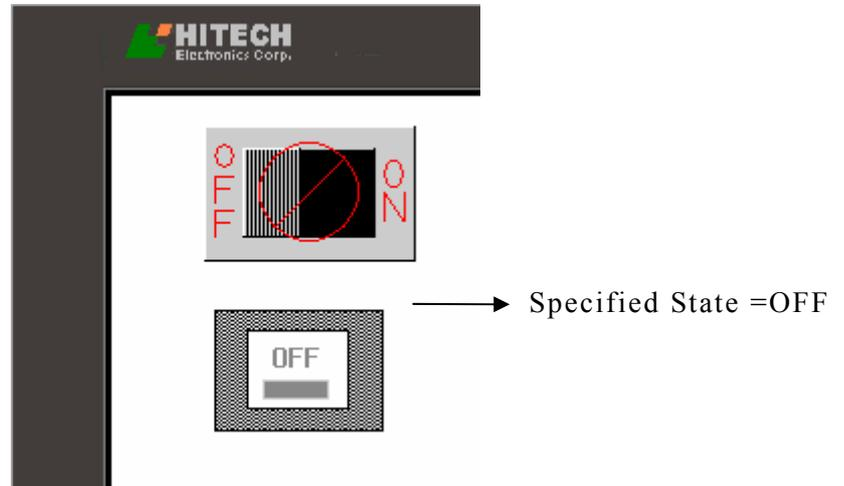
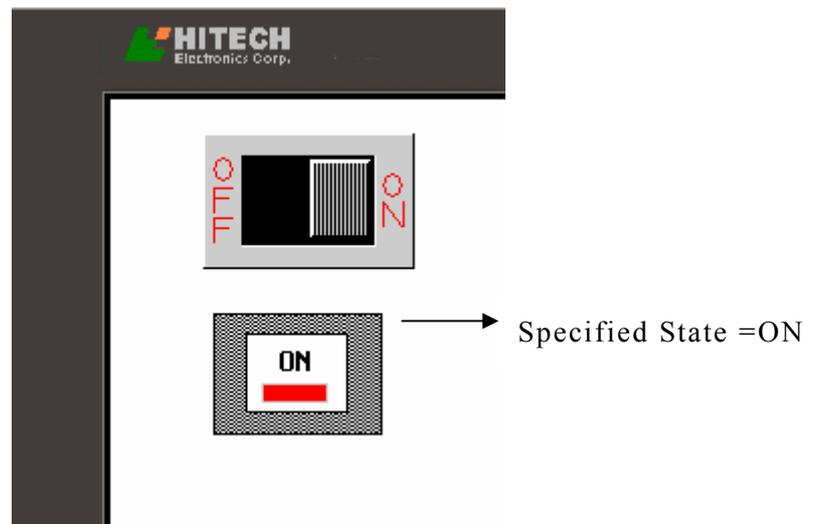

Figure 98. Specified State =OFF, inapplicable object with label
Figure 99. Specified State =ON
- ◆ [Enabled By]: Specify the PLC register to ON button. This is inapplicable on OFF state labeled ; See Figure 98. This is only applicable on ON state; See Figure 99. (This feature is only applicable on objects with input text/numeric or specific state.)